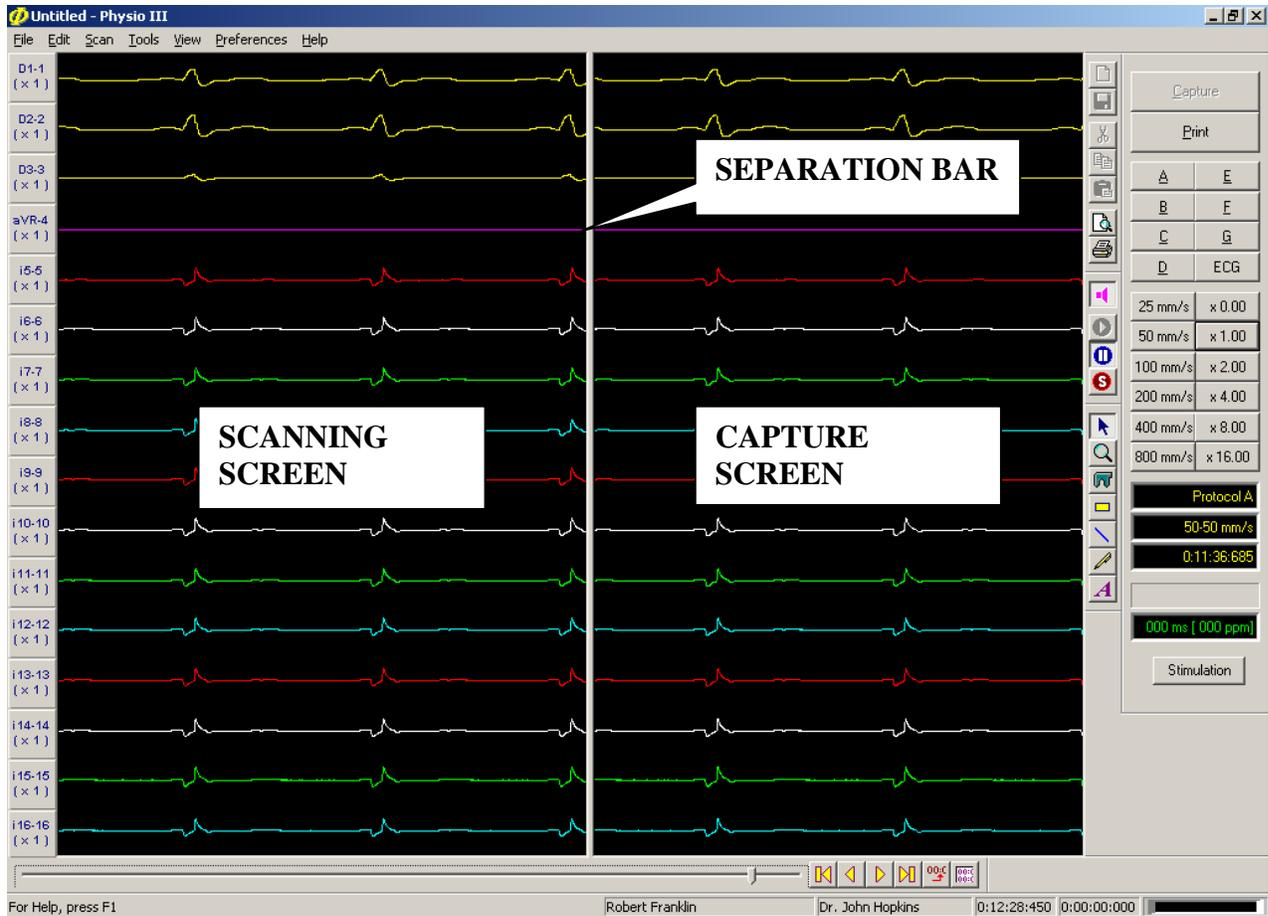

Figure 05
- "Name"**: assigns a name to the channel (e.g.: **aVR**). The typed name will identify the displayed channel and will appear on the Physio Scanner screen (**Figure 05**) and the record printout (**Figure 18**).
- e) Press **ENTER** or click on **OK** to open the Scanning (monitoring) Screen shown on **Figure 05**.